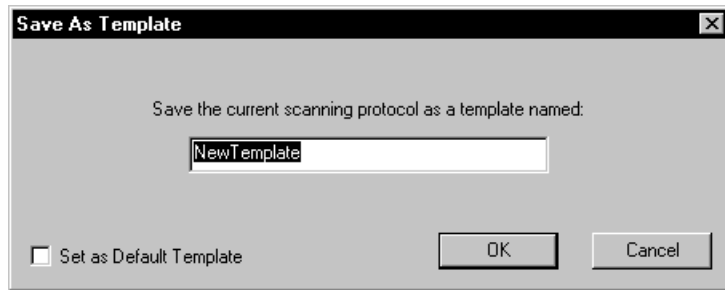

Figure 9-6. The Save As Template window for saving a template.
2. Choose **Save As Template** from the Templates menu. The Save As Template window appears (figure 9-6).